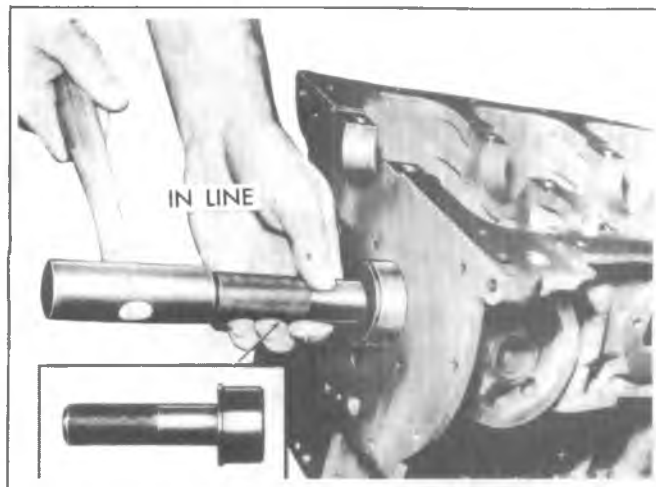

Fig. 6A1-25--Replacing Camshaft Front Bearing
6. Using two wrenches, hold puller screw while turning nut. When bearing has been pulled from bore, remove remover and installer tool and bearing from puller screw (fig. 6A1-24).
8. Assemble remover and installer tool on driver handle and remove camshaft front and rear bearings by driving towards center of cylinder block (fig. 6A1-25).
1. Assemble remover and installer tool on driver handle and install camshaft front and rear bearings by driving towards center of cylinder block (fig. 6A1-25).